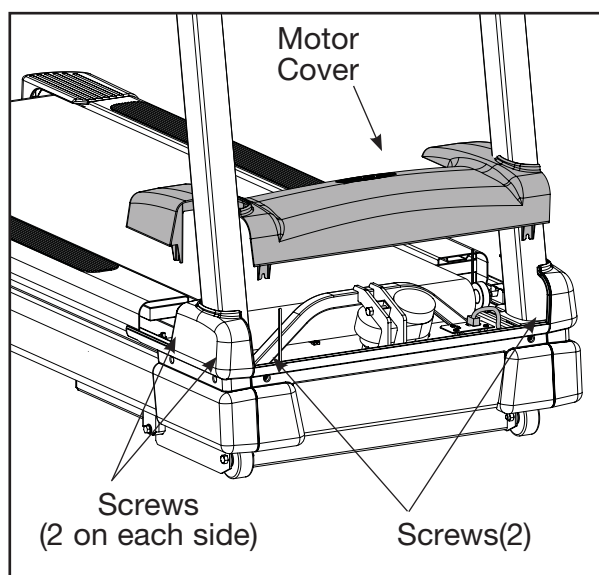

Figure 3
- A. Using a Phillips head screwdriver, loosen two screws on each motor cover side (left and right). See Figure 3.
- B. Using a Phillips head screwdriver, loosen two screws on the front motor cover. See Figure 3.
- A. Lower the motor cover center into position. See Figure 3.
- Using a Phillips head screwdriver, loosen two screws on each motor cover side (left and right). See Figure 3.
- Using a Phillips head screwdriver, loosen two screws on the front motor cover. See Figure 3.